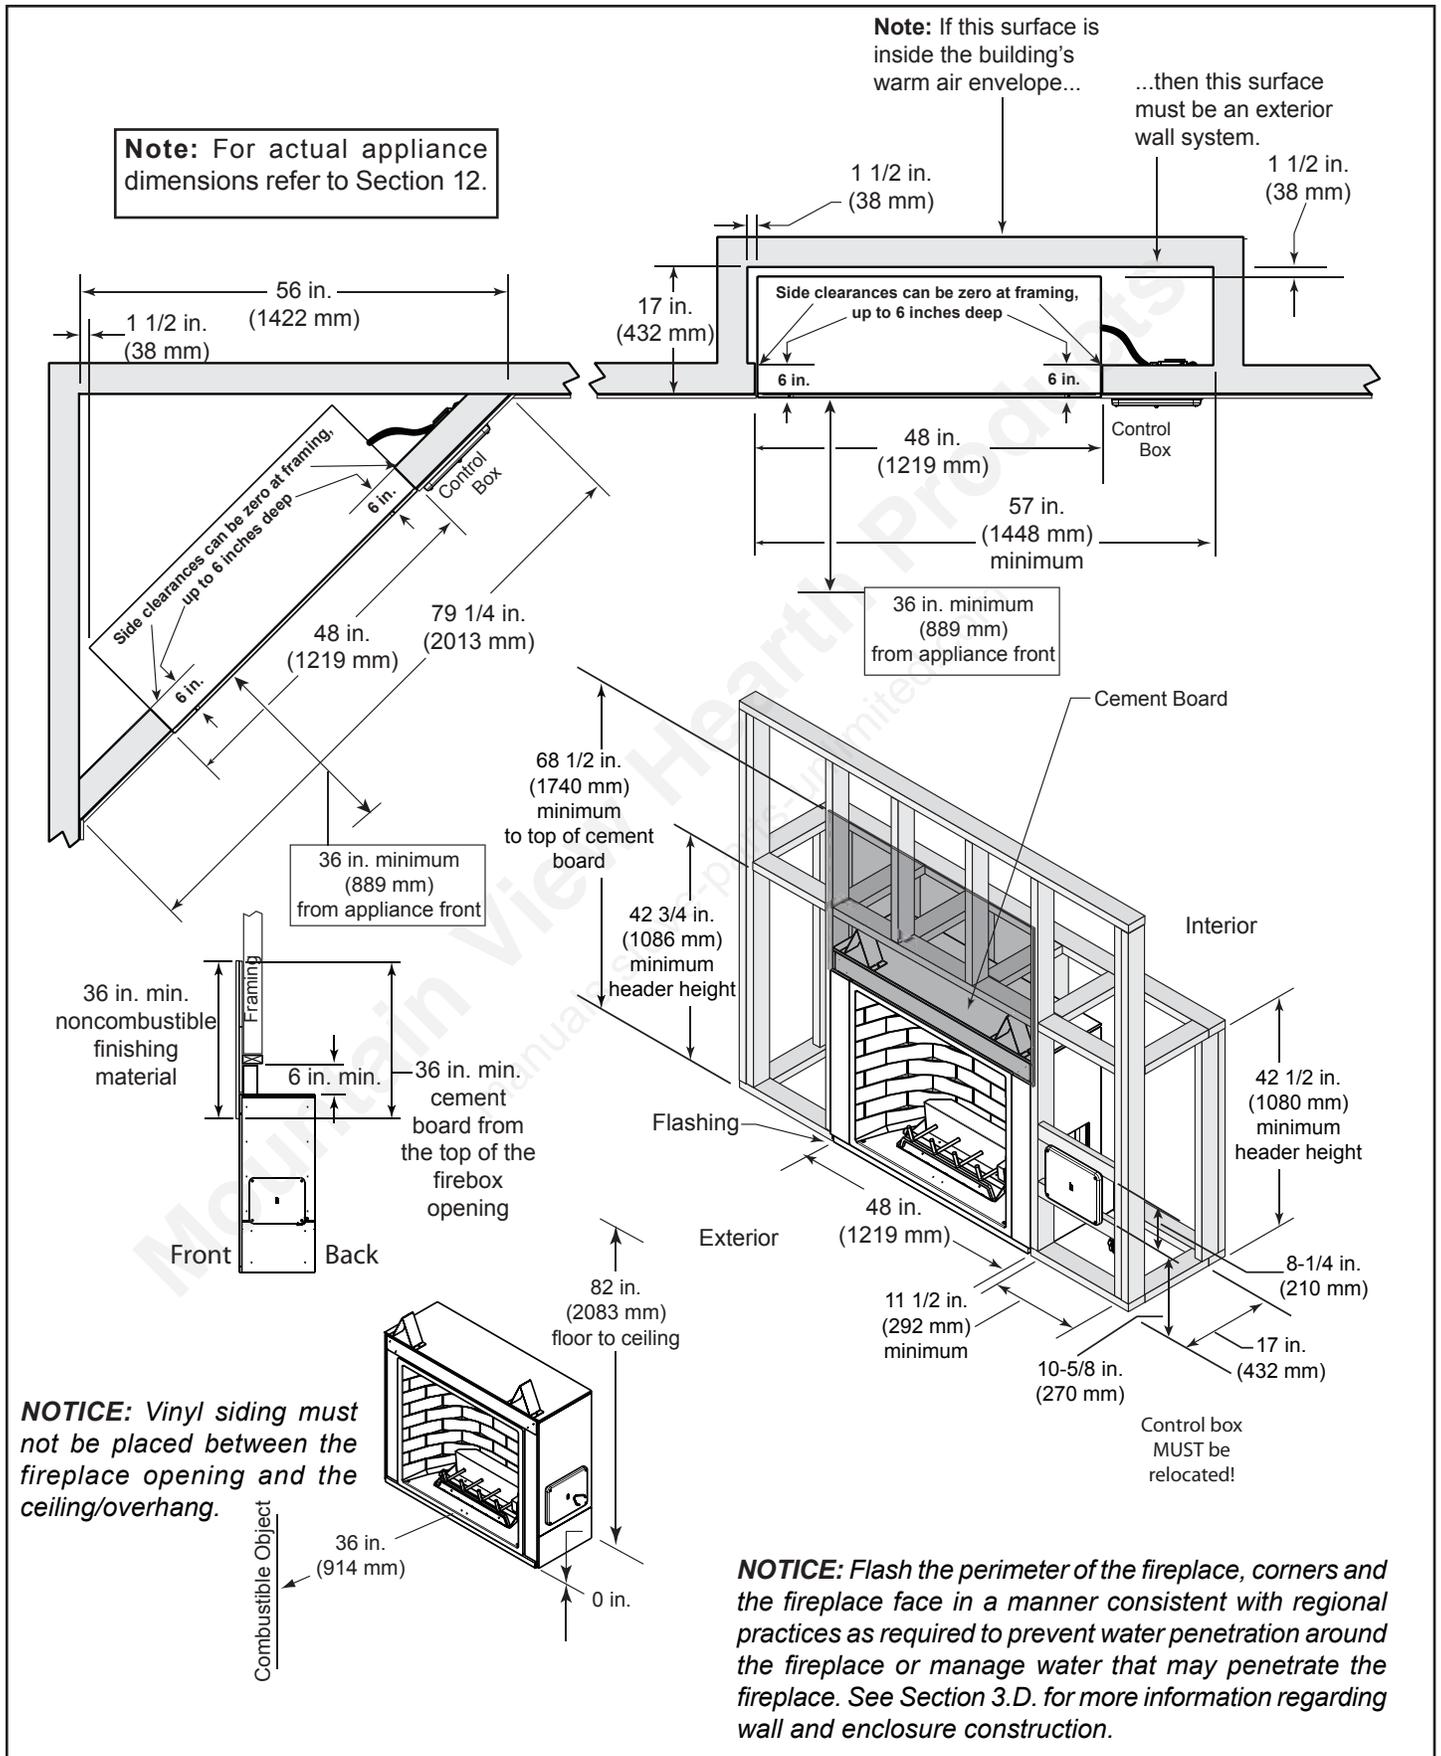

Figure 3.1 Appliance Locations and Framing Dimensions - CARODG36I, CARODG36IL
- Flash the perimeter of the fireplace, corners and the fireplace face in a manner consistent with regional practices as required to prevent water penetration around the fireplace or manage water that may penetrate the fireplace. See Section 3.D. and Figure 3.1 for more information regarding wall and enclosure construction.
Refer to Figures 3.1, 3.2 and 3.3.
- See Figure 3.1 for required clearances.
- See framing measurements in Figure 3.1.
- Remove the existing top front (cement board) and replace with 36 x 45 1/2 in. (minimum) cement board. Allow overlap on the framing studs. See Figure 3.1.
- Flash the perimeter of the fireplace, corners and the fireplace face in a manner consistent with regional practices as required to prevent water penetration around the fireplace or manage water that may penetrate the fireplace. See Section 3.D. and Figure 3.1 (CARODG36) and 3.2 (CARODG42) for more information regarding wall and enclosure construction.
- See Section 3.D. and Figure 3.1 for more information regarding wall and enclosure construction required to prevent moisture penetration into the structure. The fireplace will shed moderate amounts of water but is not waterproof.